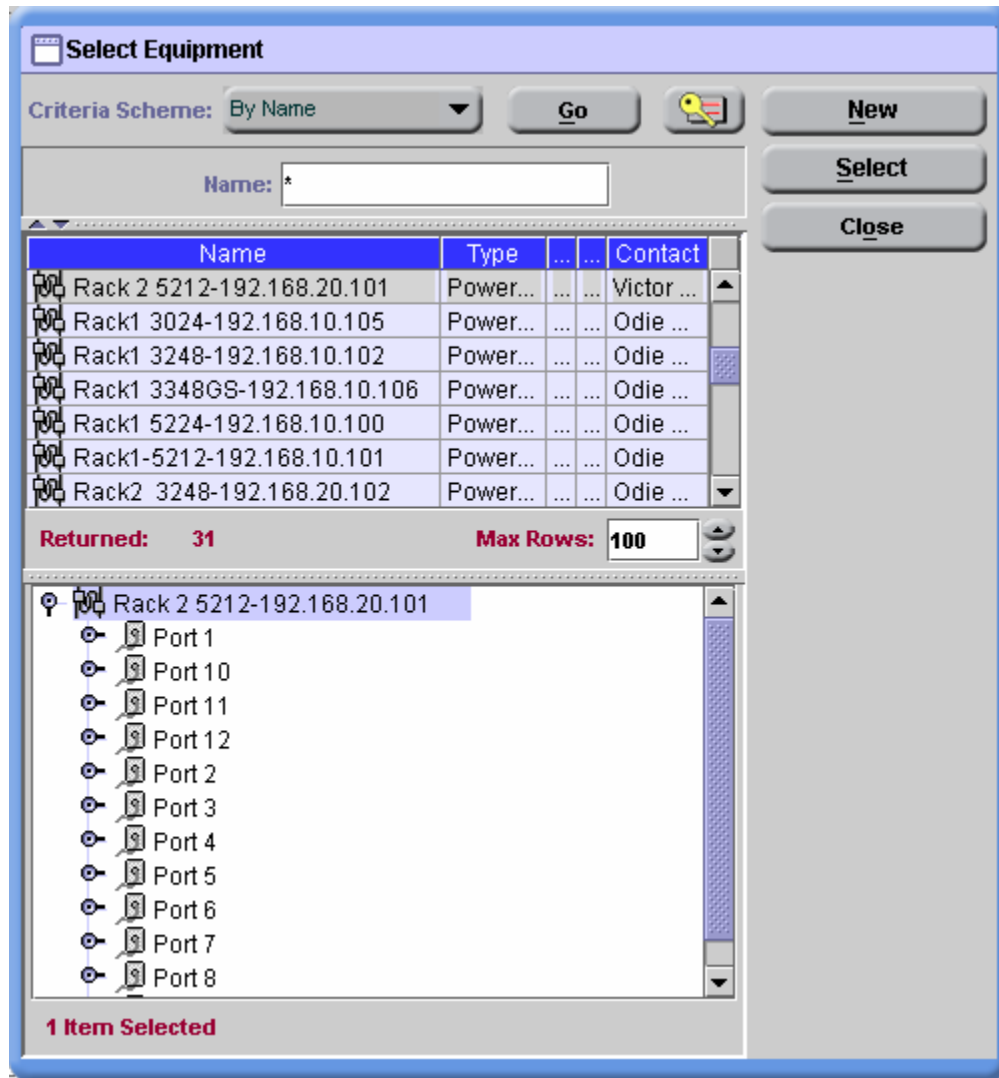

Figure 4. Data Collection Profile Manager.
4. Beside the Target Device field, press the browse button (...) to bring up the Select Equipment screen, which contains a list of discovered devices (Figure 4). This screen can not be re-sized. Consequently you may need to widen the Name column or other columns on the Select Equipment screen in order to see the entire field. You can also click on any column header to sort discovered devices by that field.